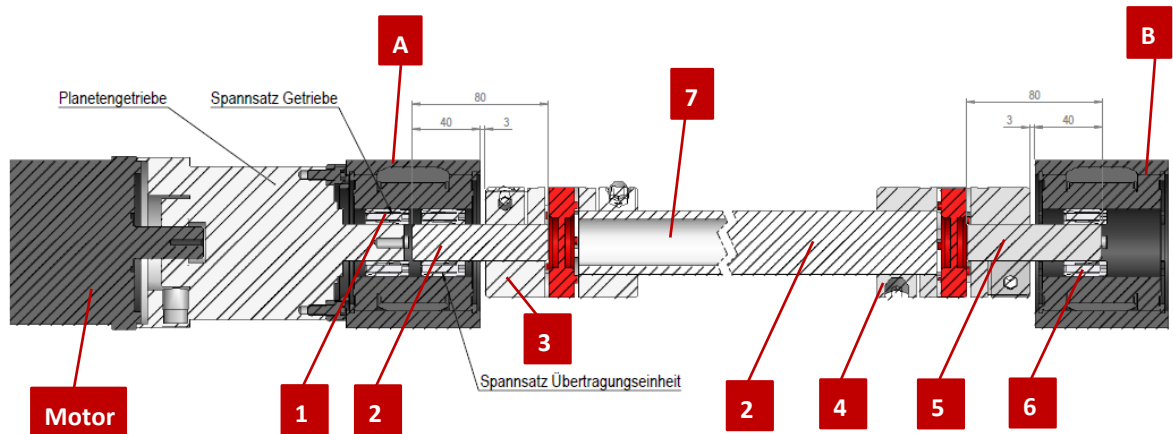

Fig. 19 Transmission unit (example illustration)
1. Insert the clamping set (Fig. 19, 1) (screws pointing towards the shaft) and the pin (Fig. 19, 2) into the axle bearing **(A)** (motor side) and tighten.
2. Prepare transmission shaft (Fig. 19, 7) with couplings (Fig. 19, 3+4).
- Loosen the coupling (Fig. 19, 3) and align it flush with the transmission shaft (Fig. 19, 7).
3. Insert transmission shaft (Fig. 19, 7) with coupling (Fig. 19, 3) on the journal (Fig. 19, 2) between axle bearing **(A)** and **(B)**.
4. Push the pin (Fig. 19, 5) and the clamping set (Fig. 19, 6) into the axle bearing **(B)**.
5. Align the transmission shaft (Fig. 19, 7) with the couplings (Fig. 19, 3+4).
6. Tighten the coupling (Fig. 19, 3+4) and tighten the clamping set (Fig. 19, 6) in the axle bearing **(B)**.